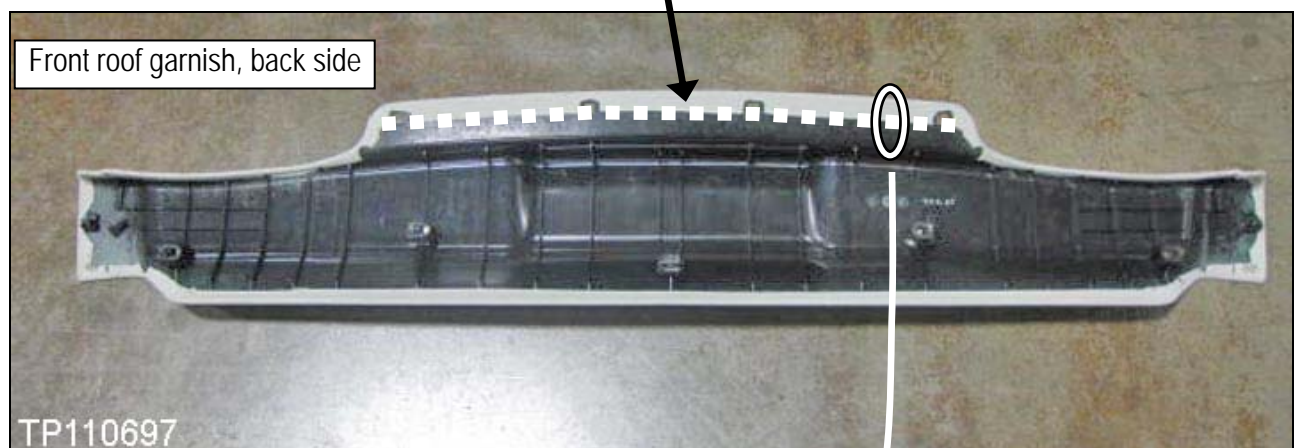

Figure 9f
11. Apply felt cloth (from the tape roll) along the white dotted line in Figure 9f.